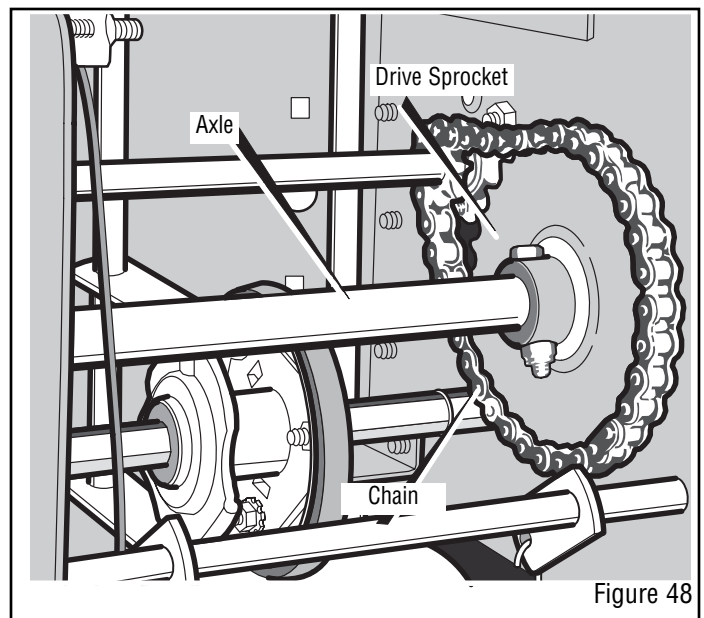

Figure 48
6. Remove the fasteners that secure the **drive sprocket** to the **axle** (see Figure 48).
15. Install the right wheel, **axle**, and **drive sprocket** with the fasteners removed earlier. Install the **chain** onto the **drive sprocket** (see Figure 48).